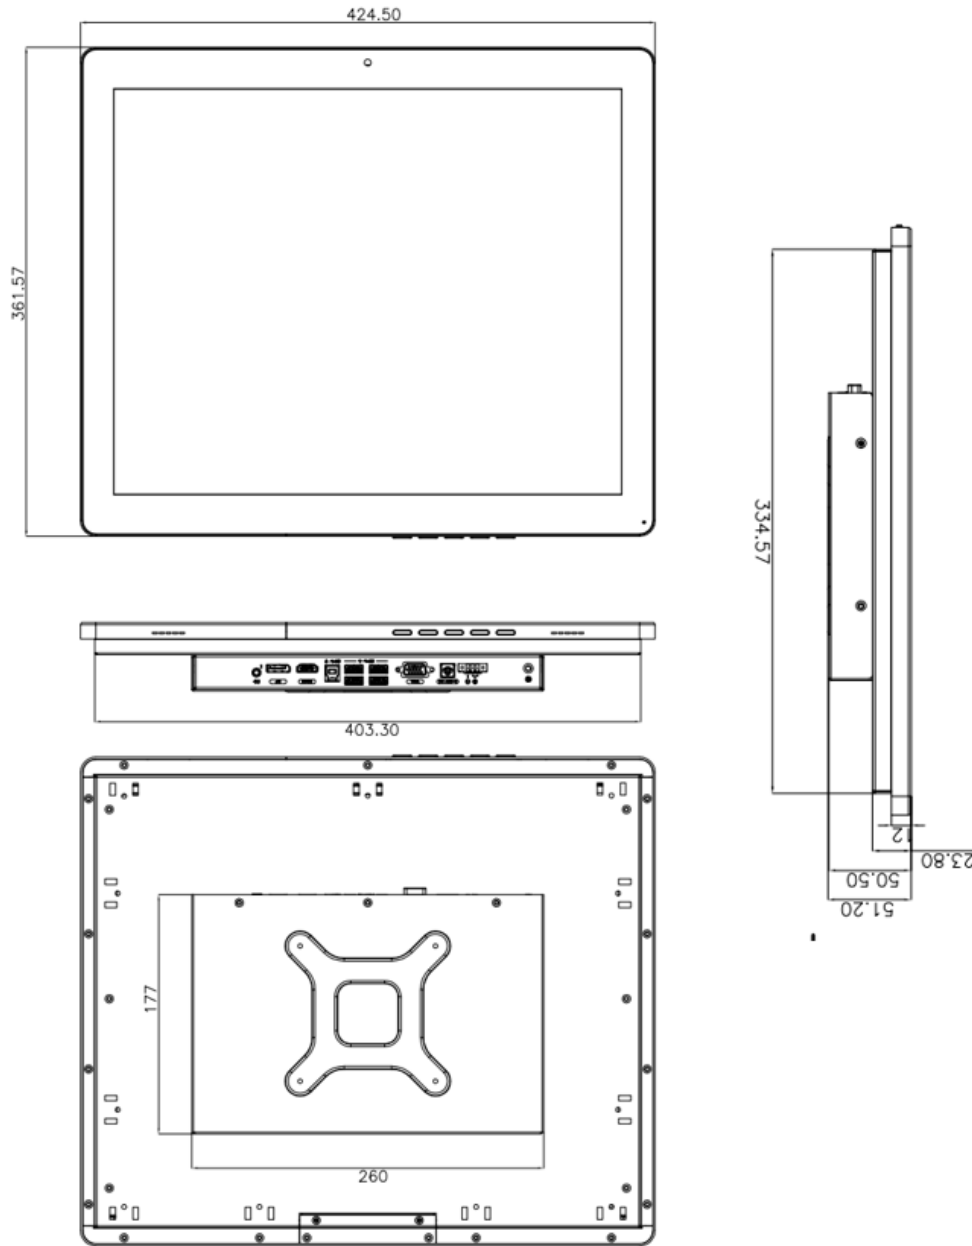

Figure 1-14: DM2-190H(L) Physical Dimensions (Unit: mm)
1.9.8 DM2-190H(L) Physical Dimensions
The physical dimensions of the DM2-190H(L) are shown in the **Figure 1-14**.